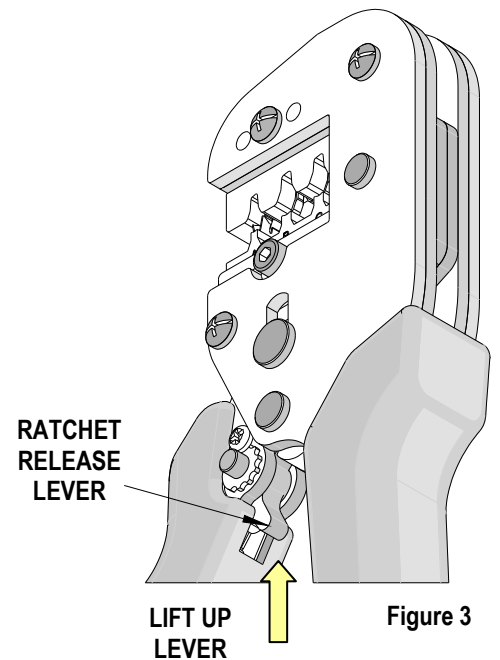

Figure 3
5. While holding the wire in place, slowly close the handles of the tool. If a jam occurs, stop closing the tool and release the anti-backup ratchet by lifting up the lever near the top of the moving handle. See Figure 3.
If the tool ever becomes jammed in a partially closed position, **DO NOT** force the handles open or closed. The tool will open by lifting the ratchet release lever. See Figure 3.